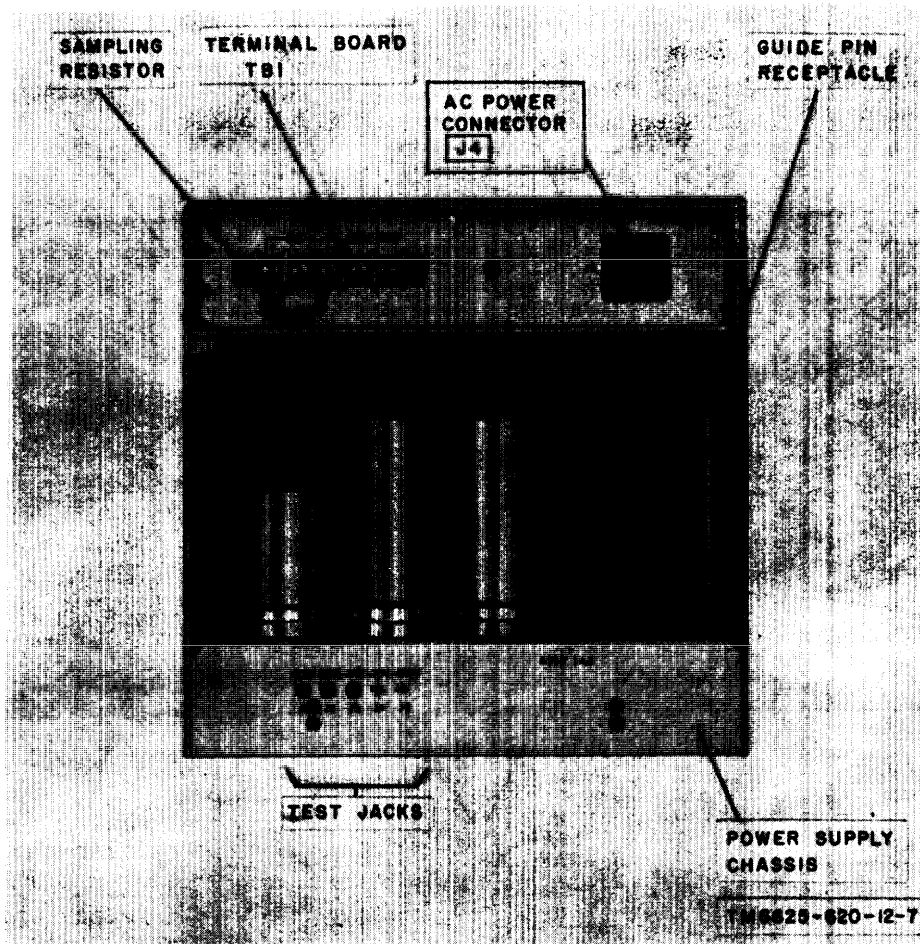

Figure 1-8. Test Set, Teletypewriter TS-800/UGM-1 rear view.
if required, it can be removed from the case and operated while mounted in a rack. A description of the transit case is given in paragraph 1-9a. Two ac power receptacles are provided on the chassis: AC POWER on the front and J4 on the rear (fig. 1-8). A protective cover (same as shown in fig. 1-4) is provided for the power connector that is not in use.
- (c) The fourth (rear) compartment contains the power supply. Battery connections, a chassis ground connection, a sync connection, external meter connections, as well as color-coded voltage test jacks are accessible at the rear of the unit (fig. 1-8).
- (n) Connect the distortion analyzer power cable to the unit's rear panel ac power connector J4 (fig. 1-8).
- (1) For bench installation, the three units OF THE AN/UGM-1 should be placed so that (when facing the bench) the relay test set is to the left of the distortion analyzer and the pattern generator is to the right of the distortion analyzer.
- (2) If an external battery connection is required for the pattern generator (fig. 1-4) or if an external meter connection is required for the distortion analyzer (fig. 1-8), these units must be removed from their transit cases, since the required connections are made at their rear (para 2-2). Otherwise, the three units of the AN/UGM-1 can be placed on a bench in their transit cases.